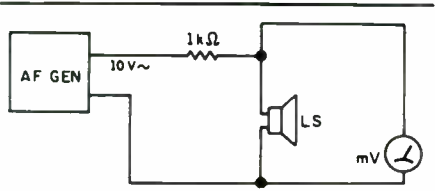

FIGURE 3: Measuring setup for the audio frequency generator.
2. You need a calibrated audio frequency generator which can deliver 10V RMS (you may need a power amplifier if your generator cannot supply this voltage). See Fig. 3.